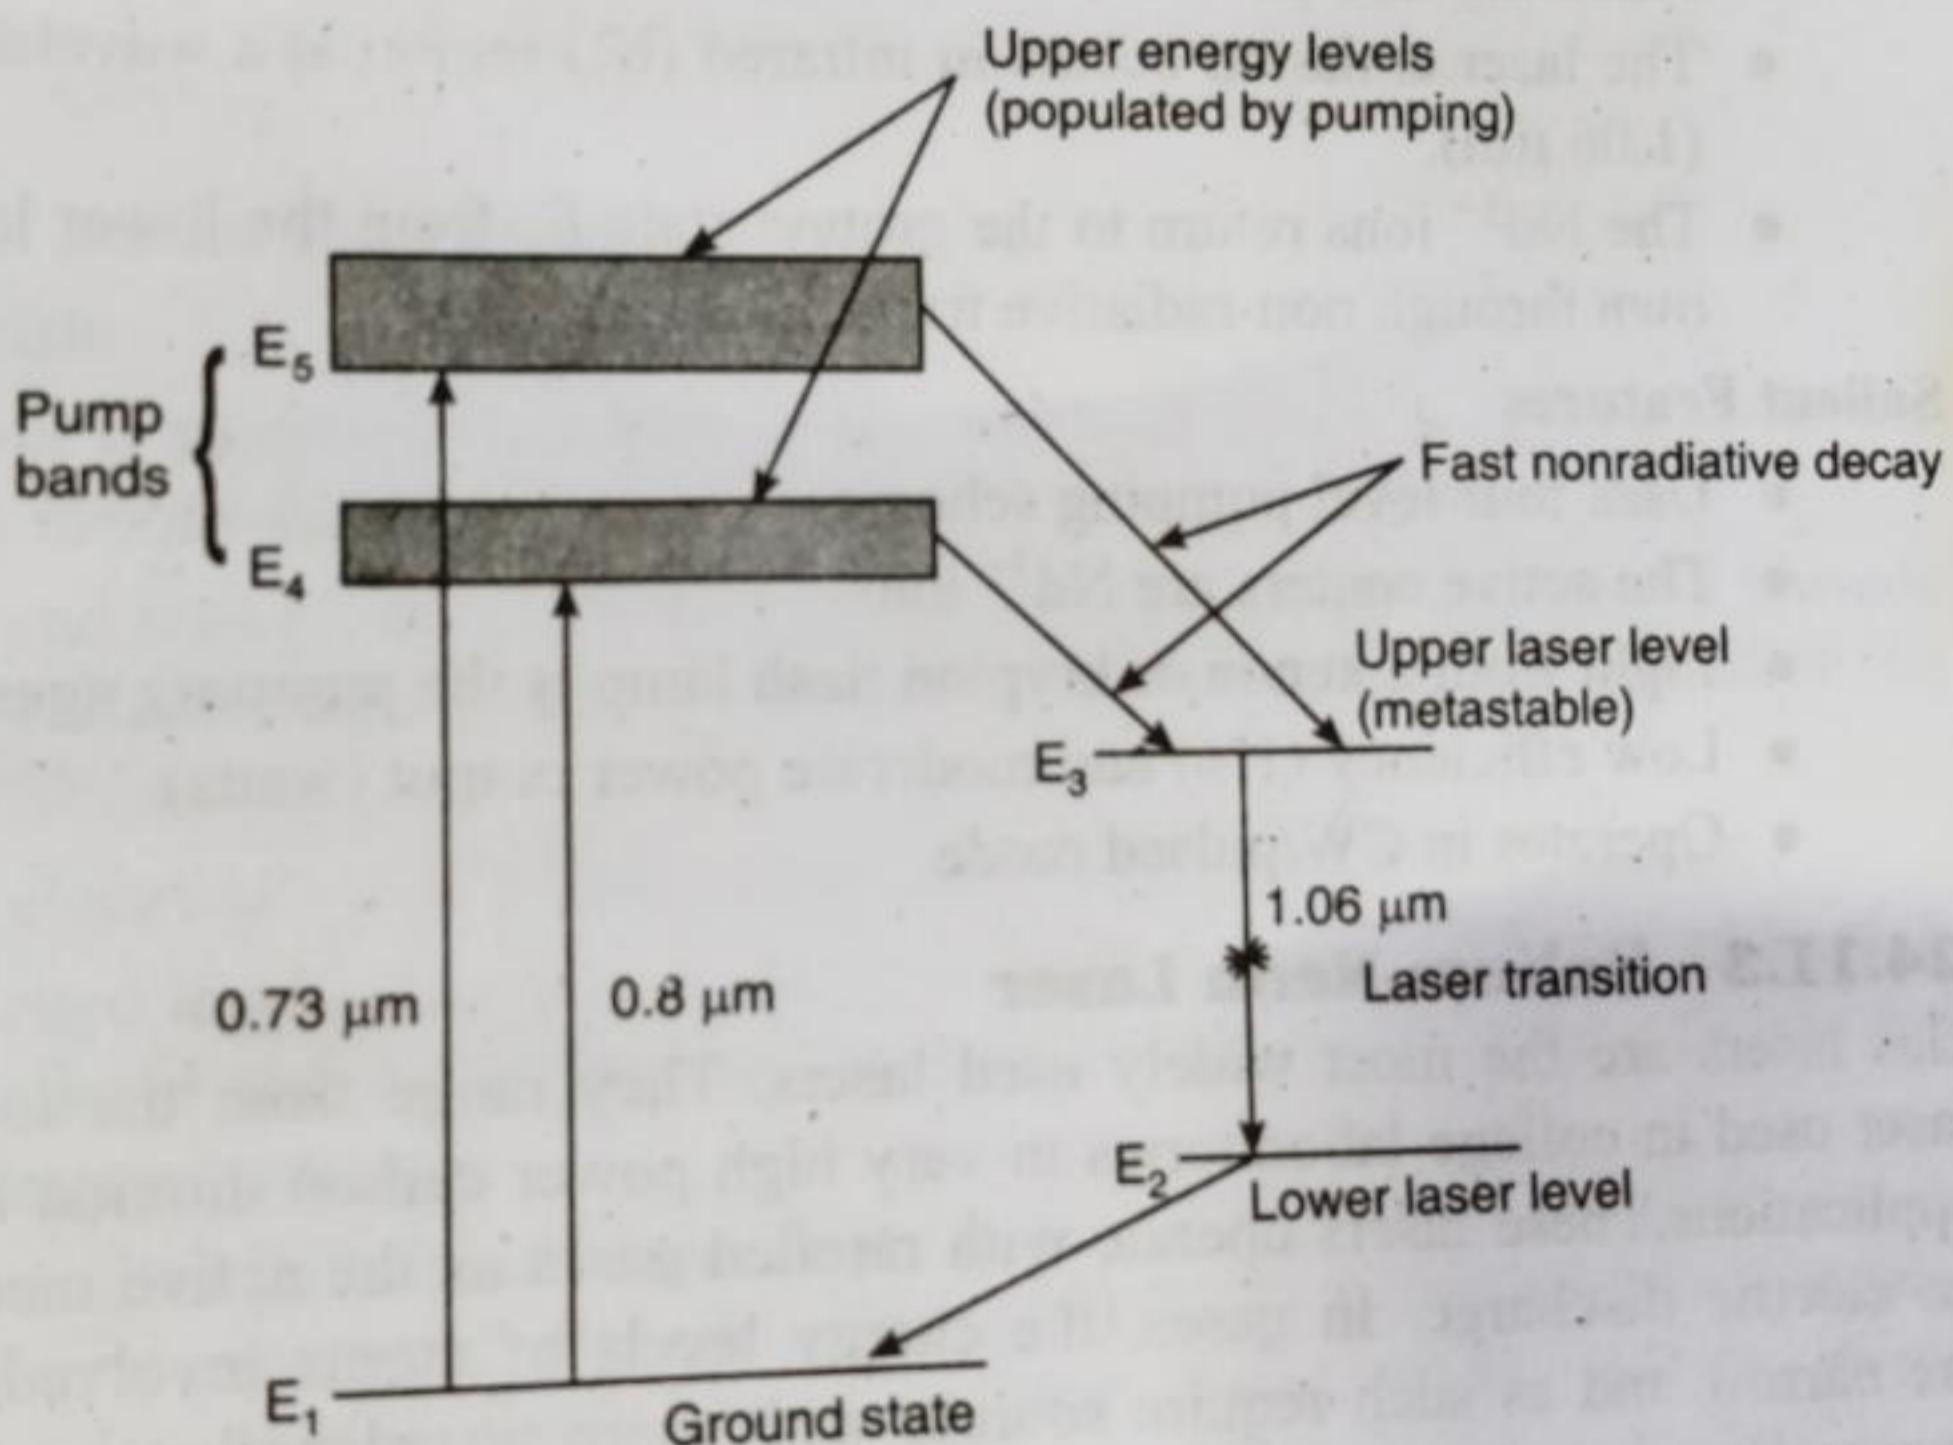

Fig. 24.18. Energy levels and transitions in a Nd : YAG laser.
**Working:** A simplified energy level diagram for the neodymium ion in YAG crystal is shown in Fig. 24.18. The energy level structure of the free neodymium atom is preserved to a certain extent because of its relatively low concentration. However, the energy levels are split and the structure is complex.